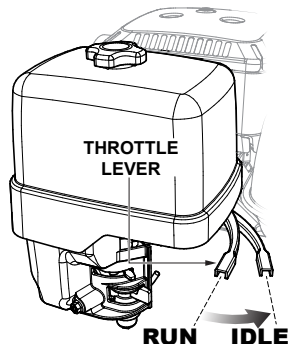

Figure 10. Throttle Lever (Idle Position)
2. Move the throttle lever (See Figure 10) to idle position.